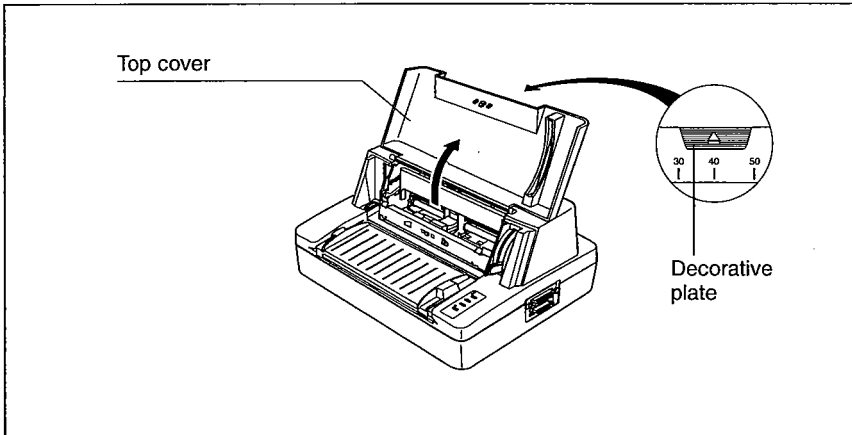

Figure 2-4 Opening the top cover
- 2 Open the top cover by holding the side of top cover as shown in Figure 2-4.
- 1 Open the top cover. (see Figure 2-4)